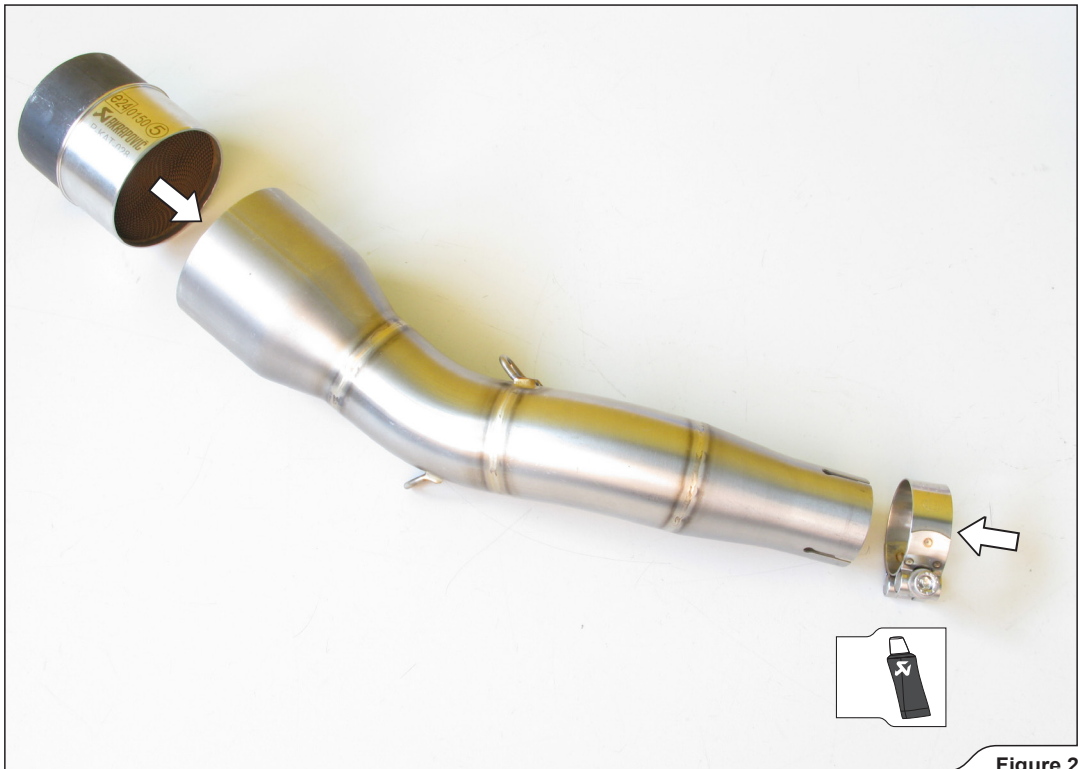

Figure 2
1. Correctly install Akrapovič clamp onto the Akrapovič link pipe and insert the catalyst into the link pipe, as shown (Figure 2).